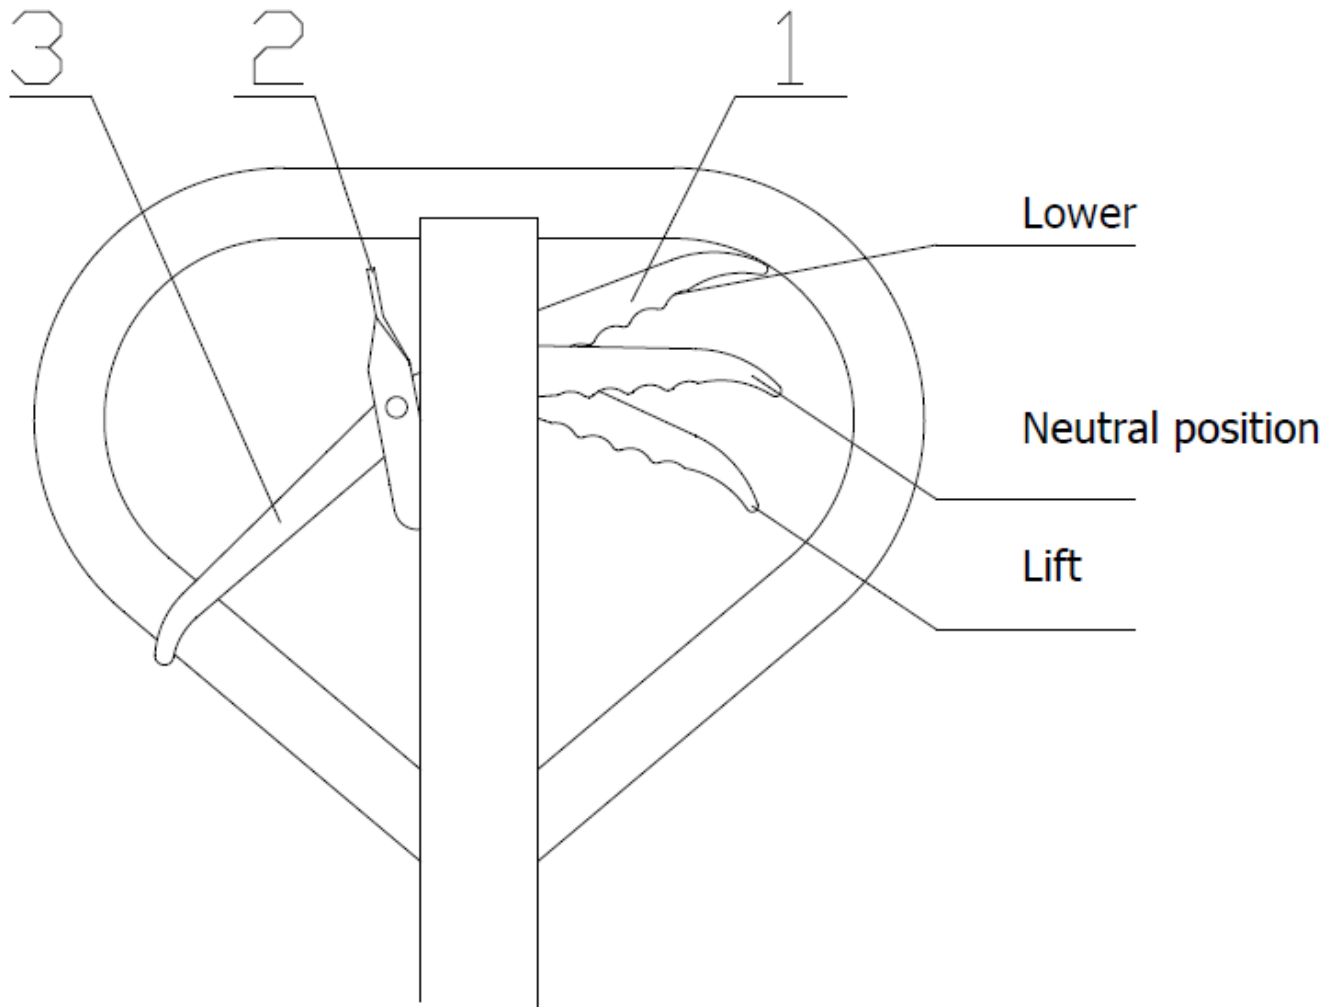

Figure 5
1. Test the pallet jack truck controls to lift and lower a palletize cargo. *See figure 5*
See figure 5